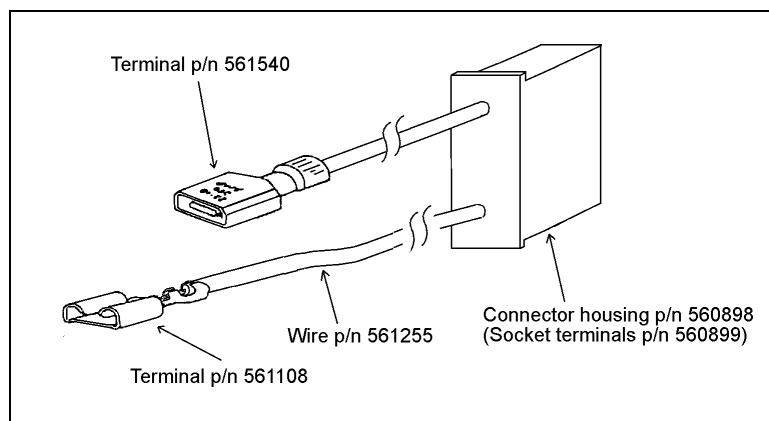

FIGURE 3: SWITCH-EXTENSION-CABLE
4. Assemble the switch-extension-cable as shown in Figure 3 (cut wires to required lengths).